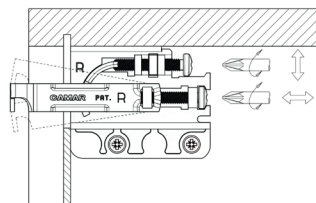

Fig. 4
11. Hang the furniture unit, ensuring the claws on the hangers are securely located into the wall brackets. Using a spirit level, make the unit level by adjusting the screws on the hangers (Fig. 4). Once level, tighten the bottom screw until the unit is secure against the wall.